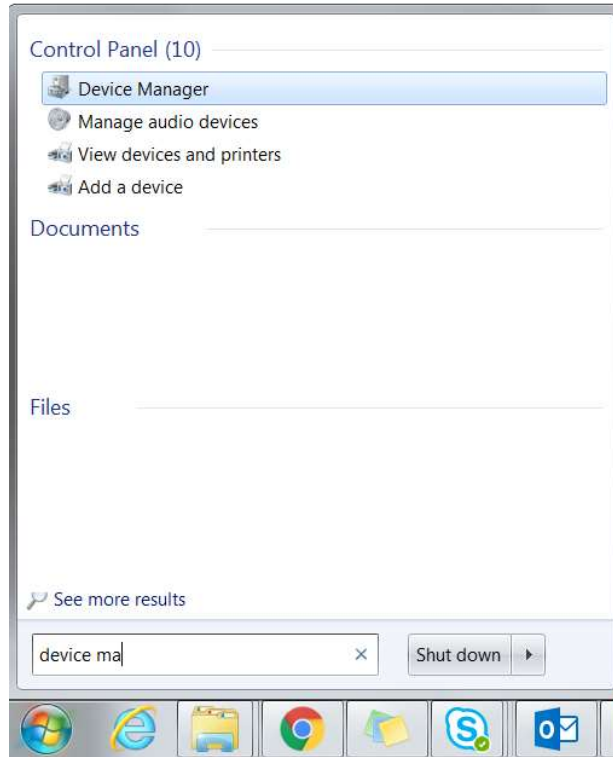
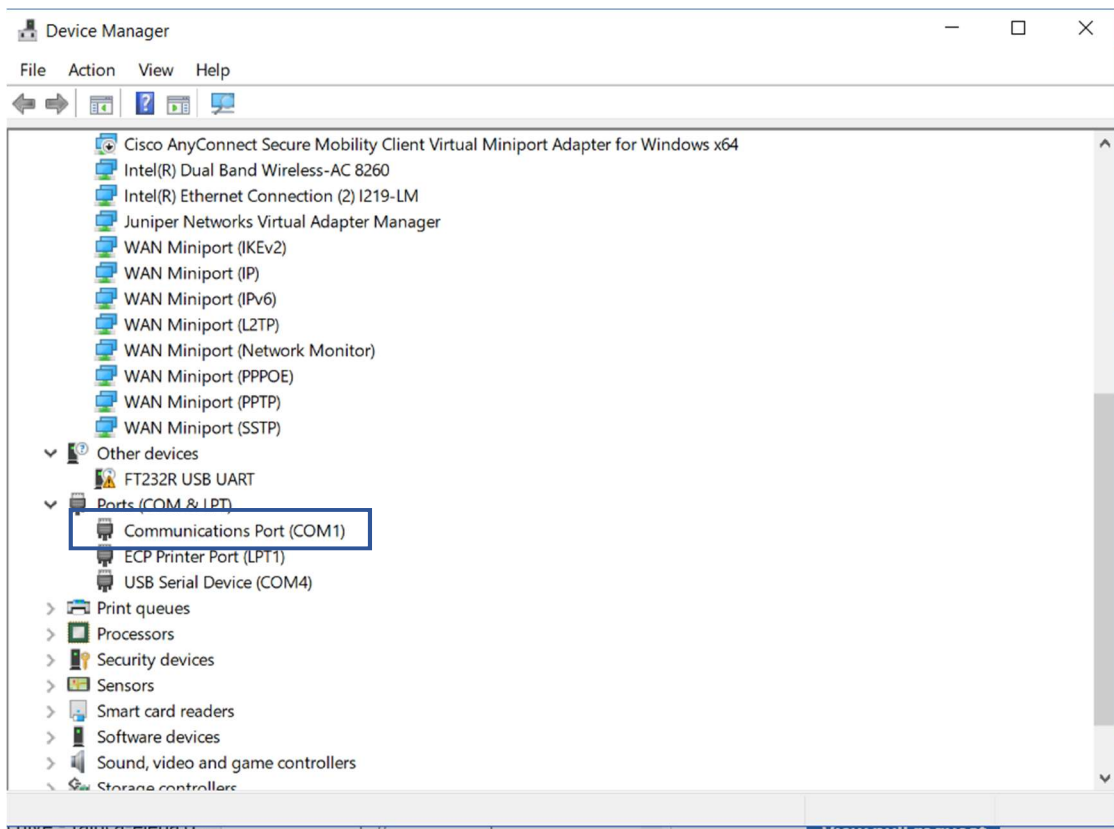

Figure 17. Device Manager
Figure 18. Communication port
See Fig 18 for each connector's location.
3. Note the COM port value assigned in the device manager. (see Figure 17 and Figure 18)
- Launch PuTTY or another serial console client you prefer and connect to the board using the COM port previously assigned and **115200** as baud rate. (see Figure 18)
- b. If the transaction is below a certain threshold, the transaction will be approved and on the screen the “Approved” message will appear (Figure 18.).